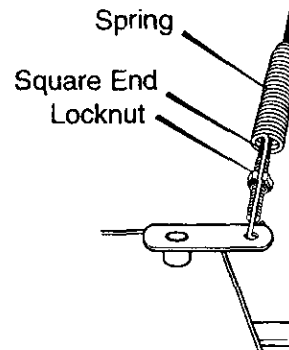

Figure 27
3. Pull spring cover up to expose **spring**. Push the cable through the **spring** to expose the threaded portion of the cable. See Figure 27.